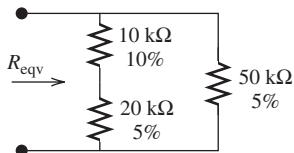

FIGURE P14.2 Resistor network.
- 14.2 (A)** For the resistor network of Figure P14.2, find the minimum and maximum tolerable equivalent resistance (R_{eqv}).